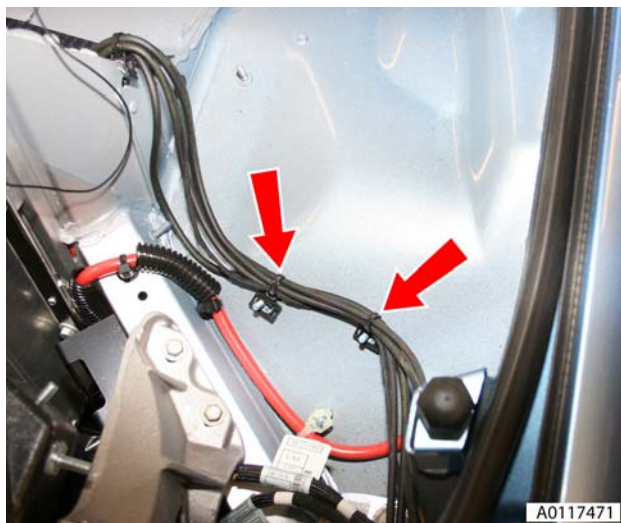

Figure 8
16. Release harness/pipe retaining clips (x2) (LH) (see Figure 8).